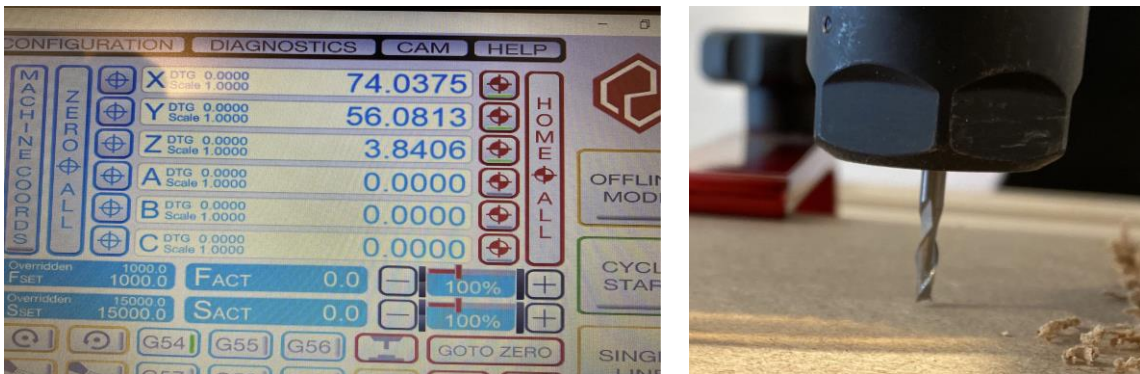

Figure 54 Incorrect Z value when checked
Please note in Figure 54 the Z axis is not correct when tested on the actual work.
2. Check the Z axis level when touching the work – as shown in Figure 54